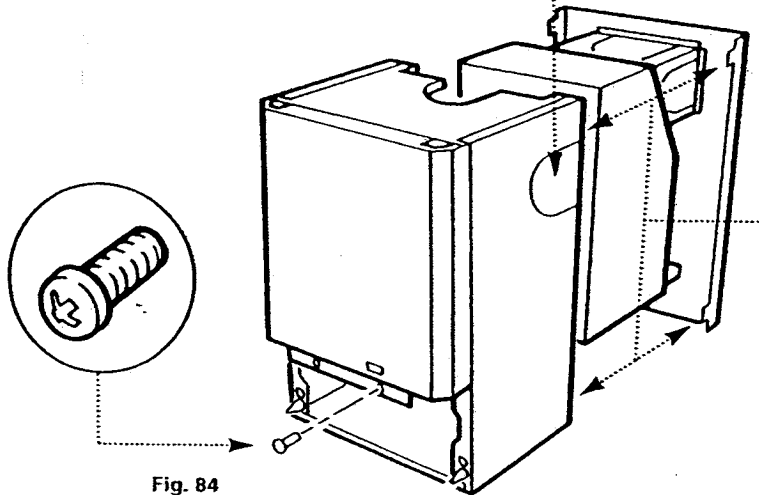

Fig. 84
6. Using the two screws previously removed, secure the outer case to the combustion box (Fig. 84).